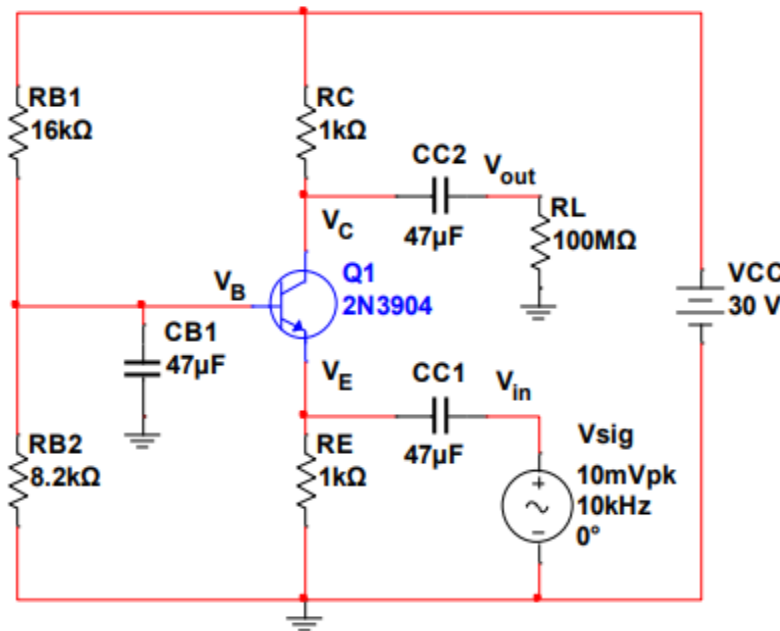

Figure 4.1 – Common Base Amplifier
1. **Build** the circuit in **Figure 4.1** using transistor 2N3904.